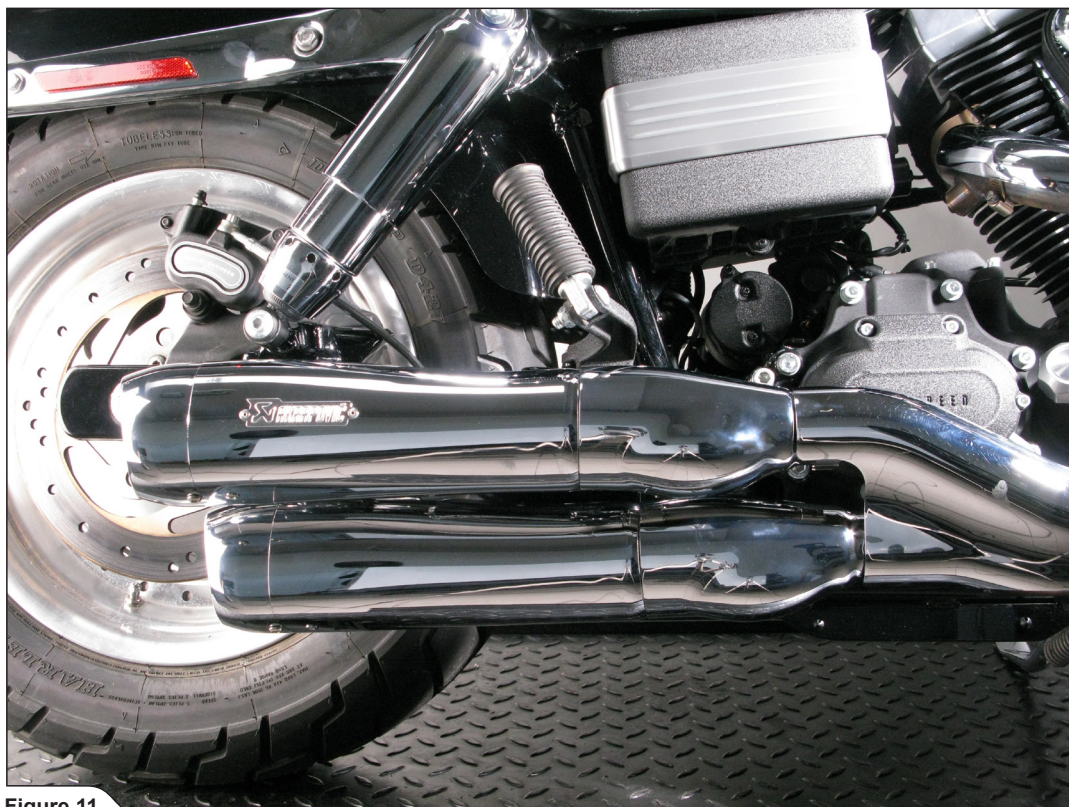

Figure 11
7. Install the assembled mufflers back onto the motorcycle; check the **Slip-On** exhaust system installation manual for details (**Figure 11**).